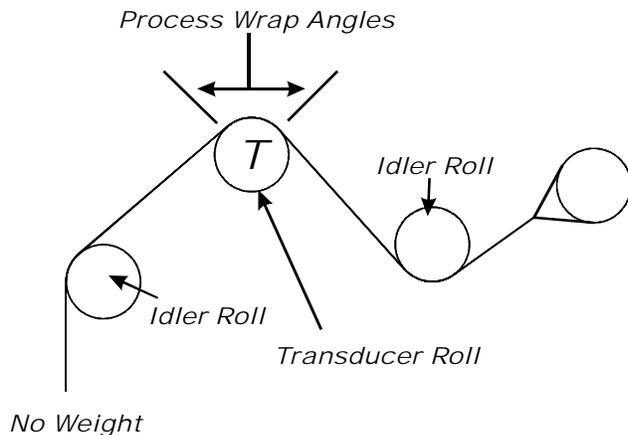

FIG. 2-8 CALIBRATION SETUP WITH NO WEIGHT
- Remove all weight from the end of the cable or cord. (See Fig. 2-8) The Reference weight should almost always be 0.00.